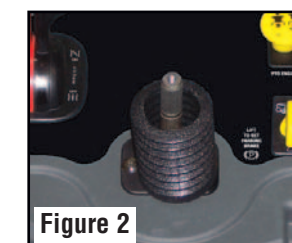

Figure 2
- Install the steering shaft bellows (Figure 2) over the steering shaft.